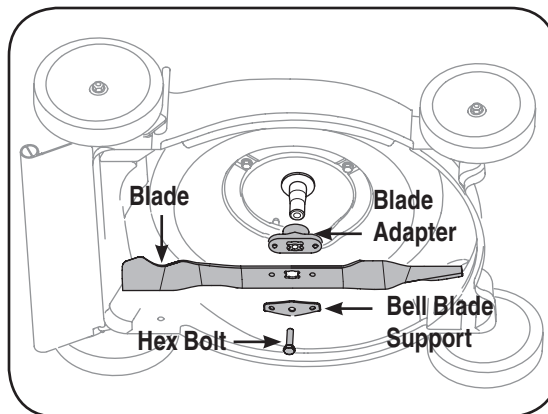

Figure 5-2: Remove blade and hardware.
2. Remove the bolt and the bell blade support which hold the blade and the blade adapter to the engine crankshaft. See Figure 5-2.